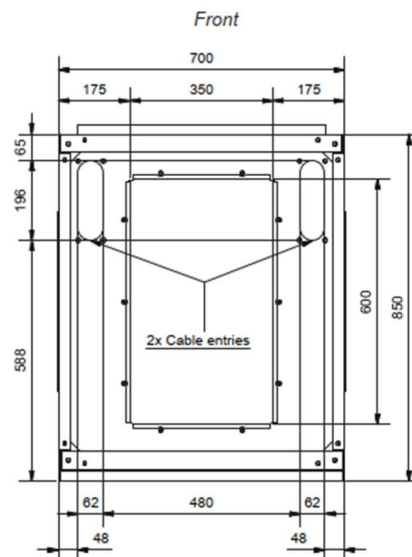

Figure 6: Cable entries – top view
Antennas will be pre-installed at factory level on top cap as seen in figure 6.
- Lift up roof, disconnect antenna cable (if present) and remove cabinet roof (see figure 6)
Note: The back bottom cover plate needs to be mounted before installing the batteries, as mentioned previously. Refer to figure 6.